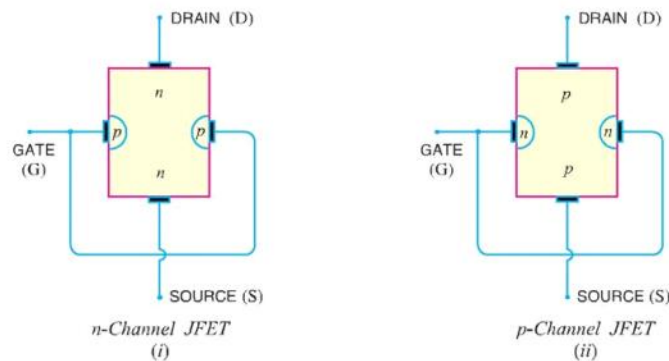

Fig. 19.1
Constructional details. A *JFET* consists of a *p*-type or *n*-type silicon bar containing two *pn* junctions at the sides as shown in Fig.19.1. The bar forms the conducting channel for the charge carriers. If the bar is of *n*-type, it is called *n-channel JFET* as shown in Fig. 19.1 (i) and if the bar is of *p*-type, it is called a *p-channel JFET* as shown in Fig. 19.1 (ii). The two *pn* junctions forming diodes are connected internally and a common terminal called *gate* is taken out. Other terminals are *source* and *drain* taken out from the bar as shown. Thus a *JFET* has essentially three terminals *viz.*, *gate (G)*, *source (S)* and *drain (D)*.
* It would seem from Fig. 19.1 that there are three doped material regions. However, this is not the case. The gate material *surrounds* the channel in the same manner as a belt surrounding your waist.